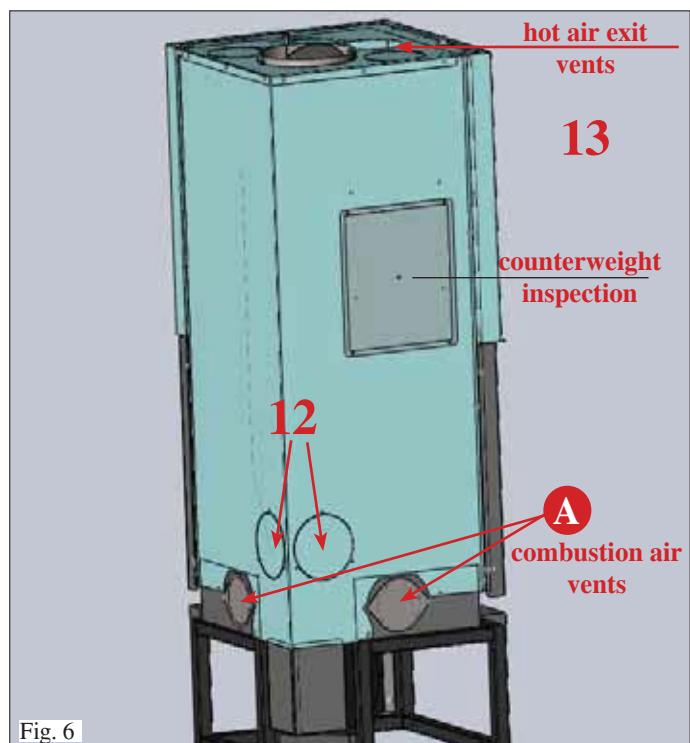

Fig. 6
For the fireplace to work correctly, it is essential for the combustion air to be introduced into by means of a pipe which links the external environment to one of the specific air intake vents (A) fitted on the sides (fig. 6) and below (fig. 7).